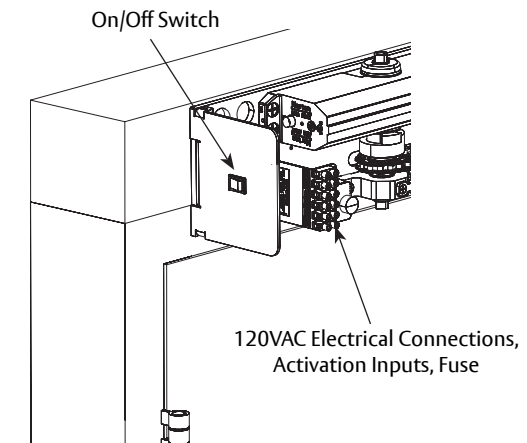

Figure 17
3. Turn on power of operator at On/Off switch. (Figure 17)